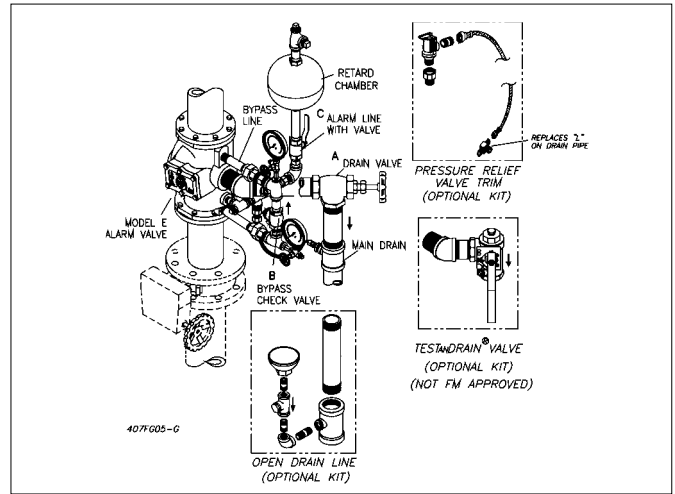

Fig. 3
- a. The By-Pass connection with Check Valve (Figure 3 & 4) allows pressure surges from the supply to by-pass the Alarm Valve Clapper. An excess system pressure is thus created which steadies the Clapper. Should a heavy surge unseat the Clapper and permit water to flow into the alarm line, the Retard Chamber then comes into action.
The E3 trim sets for the Reliable Model E Alarm Valve (Figs. 3 & 4) are arranged for rapid, easy and compact attachment, and serve as connection points to Reliable alarm and other devices. They also act as a means for testing the system to operate. The Model E alarm valves are available in two trims and may be installed in the vertical or horizontal position in the main supply to the wet pipe system:
- **Variable Pressure with Open Retard Chamber Drain**—Retard chamber is required. Optional Drain Line Kit required (see Figs. 3 & 4). This trim set is used where water supply pressures vary. An open drip cup is provided to drain the retard chamber and the mechanical sprinkler alarm line. This drain connection should be piped separately from the 2" main drain.
- The trim set permits both vertical (Fig. 3) and horizontal (Fig. 4) installations.
- A Test_{AN}Drain valve segment is optional, to be purchased separately, as a replacement to the Drain valve (see optional Kit in Figs. 3 & 4).
- All trim sets can be fitted with an optional Pressure Relief Trim Kit (see optional kit in Figs. 3 & 4) to relieve pressures above 175 psi in the sprinkler system, as required by NFPA 13, 3-1.2.